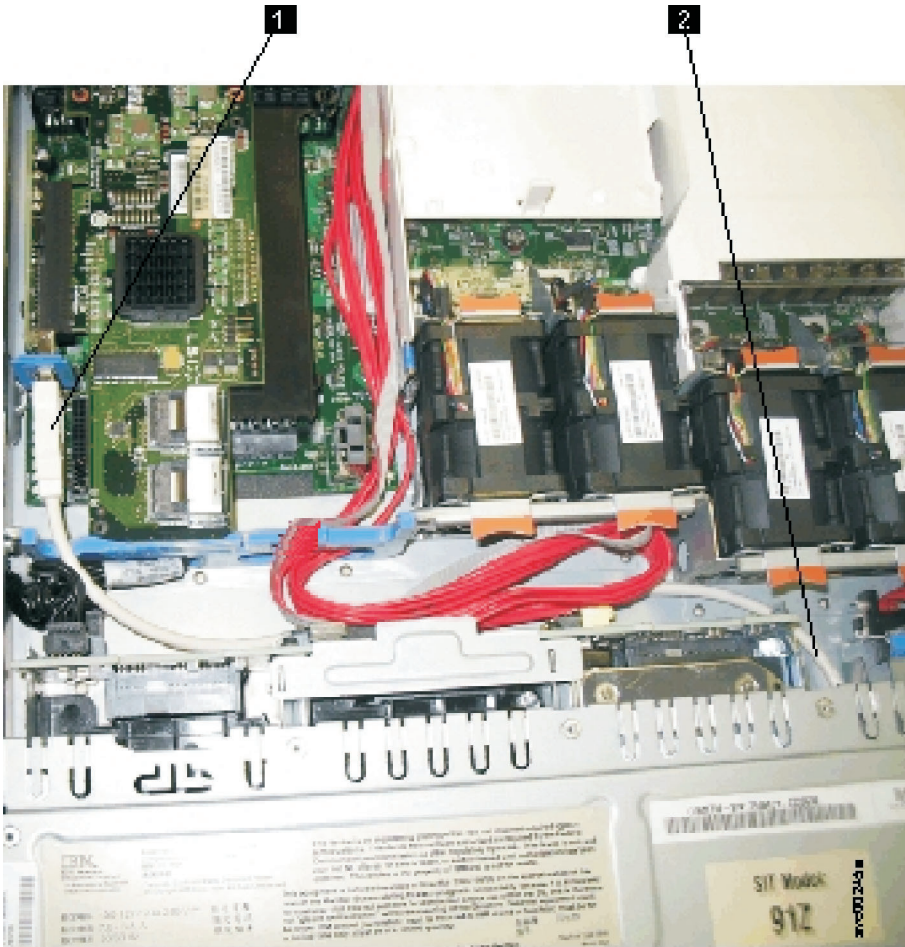

Figure 75. USB service-controller cable connected to the disk controller and USB riser card (SAN Volume Controller 2145-CF8 shown)
- b. Locate the USB connector (**1** in Figure 75 on page 94) on the left side of the SAN Volume Controller 2145-CG8 or 2145-CF8.
- a. To reinstall the cable, *carefully* thread the USB cable through disk-drive bay 5, routing the larger connector of the cable to the USB connector (**1** in Figure 75 on page 94) on the USB riser card. Route the cable beneath any red SAS cables that are attached to the disk backplane.